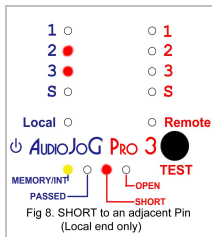

Fig 8. SHORT to an adjacent Pin (Local end only)
- a) A short was found, at the Local end within the connector, where no connection existed before (Fig8.).